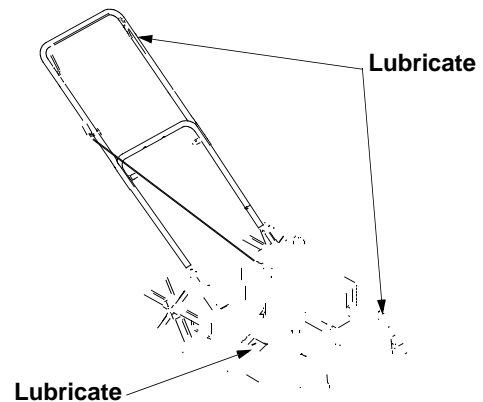

Figure 13
**Blade Control Handle:** Lubricate the pivot points on the blade control handle at least once a season with light oil. The blade control must operate freely in both directions. See Figure 13.